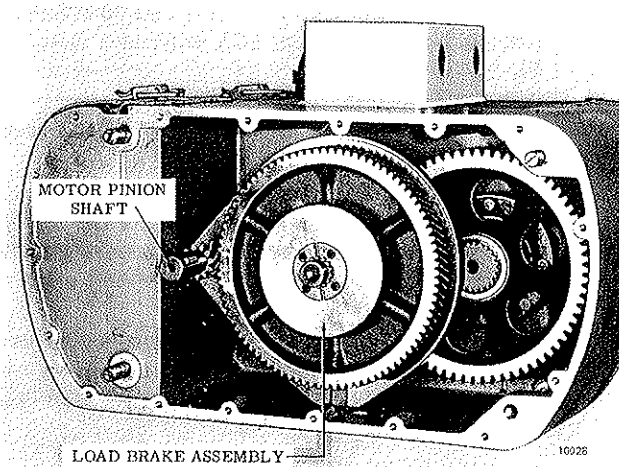

Figure 5-4. View of Gearing — Spider Removed.
- b. Remove compression plate, washer and lining assemblies, springs and brake plates as described in Paragraph 5-5.g. Remove hex nuts and hex head bolts, holding gearcase spider and remove spider. Inspect gearing for tooth wear or damage, (see Figure 5-4). If replacement parts are indicated, disassemble load brake and gearing as follows:
- (1) Pull out motor pinion shaft from gearcase, (see Figure 5-4).
- (2) The complete load brake assembly can now be pulled out from the gearcase or removed part by part.